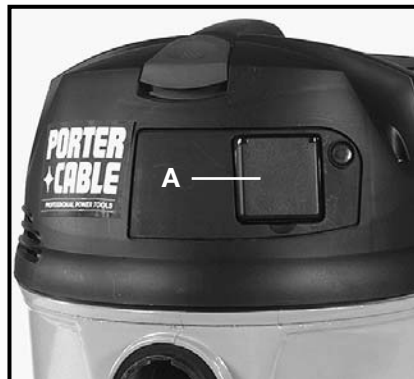

Fig. 5
An accessory outlet is located under a hinged cover (A) Fig. 5 on the front of the vacuum cleaner. Lift this cover to expose the outlet.